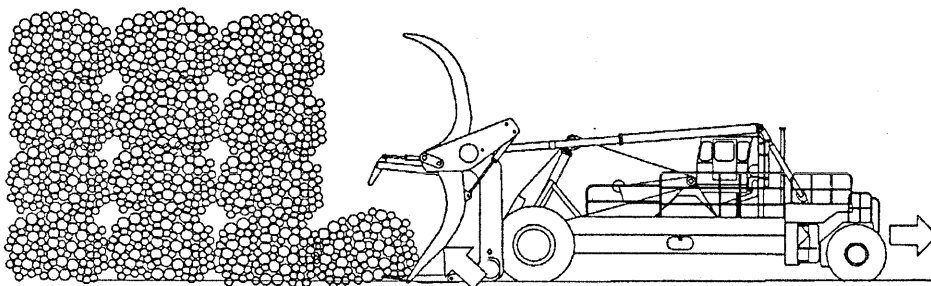

Fig 4-18
2. To place the bundle, set the bundle in position, raise the auxiliary holddown arms and push forward with the kickoff arms while backing up. The bundle will slide off of the tines. See Fig. 4-18.